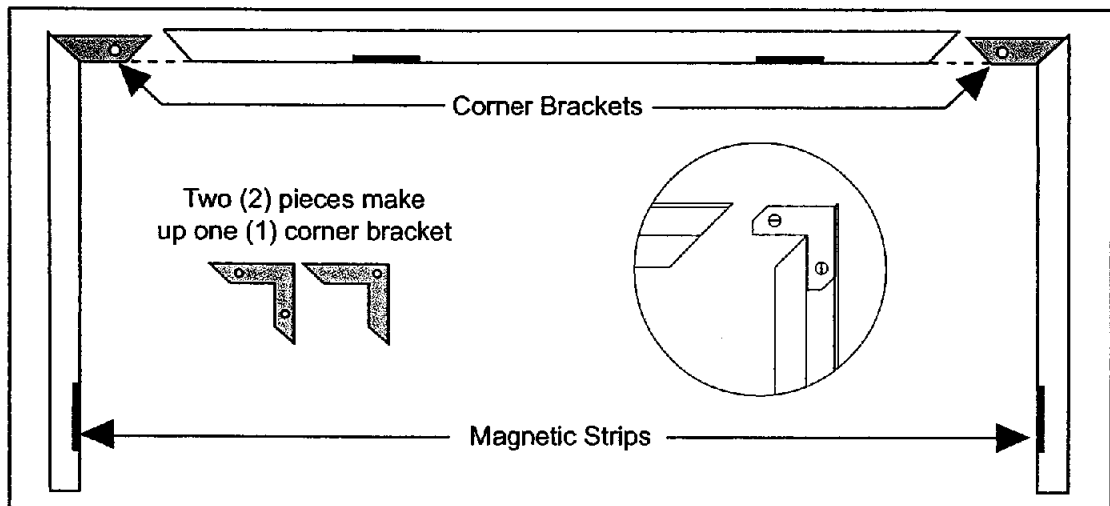

Figure 30: Assembling Trim for Surround Panel.
1. Assemble the trim set using the corner hardware and screws supplied in the surround panel packaging. Install corner hardware into the side trim pieces, then push them into the top trim. Do not over-tighten the corners or the side trim cannot be removed during servicing. See Figure 30.